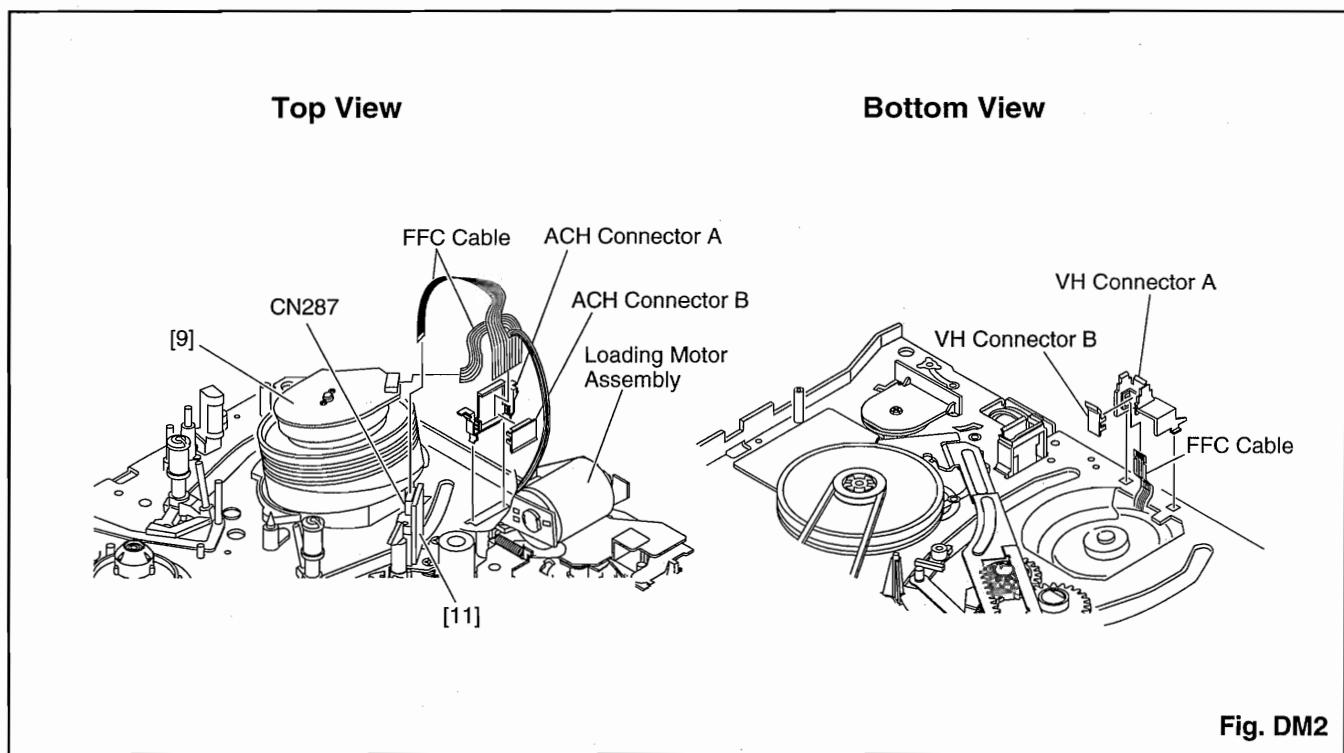

Fig. DM2
4. Before Step/Loc. No. [2] and [9] first remove ACH Connector A, ACH Connector B, VH Connector A, and VH Connector B. (See Fig. DM2.)